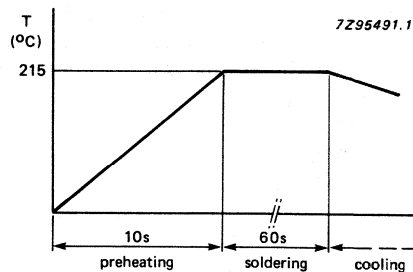

Fig. 3 Vapour phase soldering.
1. Cardboard tape, on reel; quantity 4000 per reel; reel diameter 180 mm, see Fig.3 in Resistor Chips Introduction.